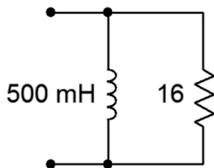

Figure 3.2
2. Determine the effective impedance of the network shown in Figure 3.2 at 100 Hz.
8. For the network shown in Figure 3.2, determine the frequency below which the impedance is mostly inductive.
41. Add one or more components in parallel with the circuit of Figure 3.2 such that the resulting impedance at 20 Hz is  $10\ \Omega$  with a phase angle of at least  $+30^\circ$ .